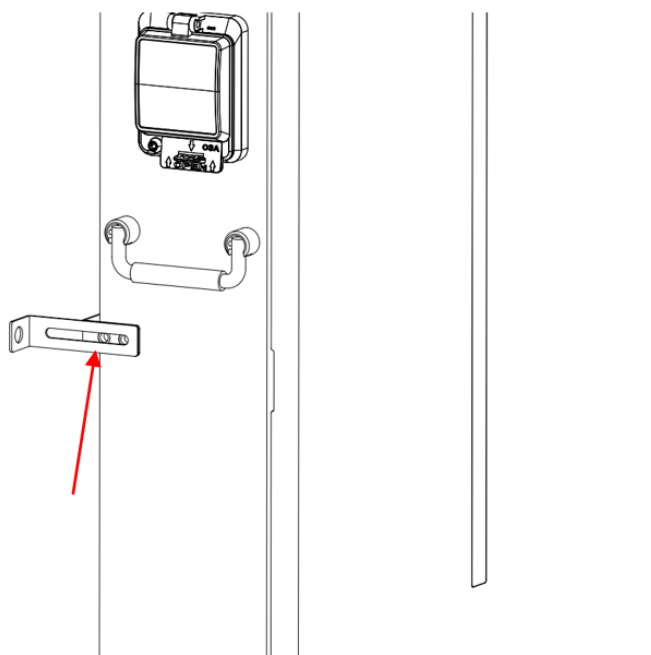

Figure 5-6
h)Adjust the left and right screws to the appropriate position to ensure that the battery is perpendicular to the ground, The left and right movement distance of the battery pack is 15.5~54mm, the nearest distance from the wall is 15.5mm, and the furthest distance from the wall is 69.5mm.as shown in Figure 5-6.